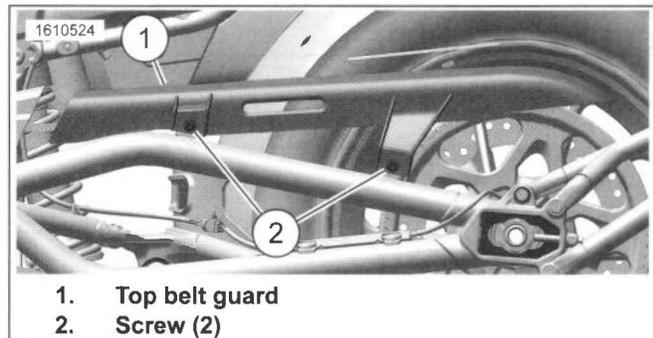

Figure 3-69. Top Belt Guard
1. See Figure 3-69. Remove screws (2).
2. Remove top belt guard (1).
- a. See Figure 3-69. Install top belt guard (1).
- b. Install screws (2). Tighten.